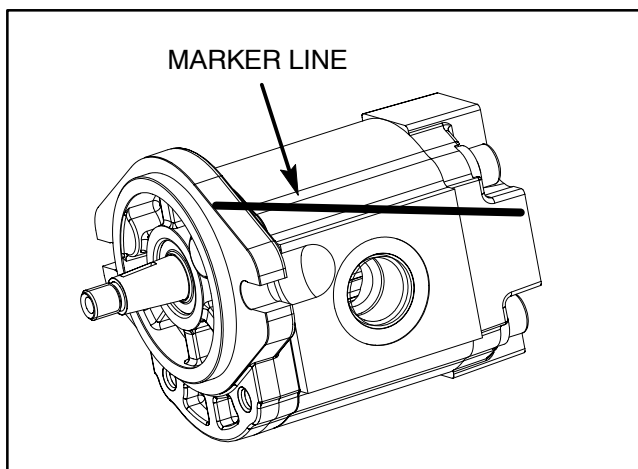

Figure 75
2. Use a marker to make a **diagonal** line across the front flange and body for assembly purposes (Fig. 75).